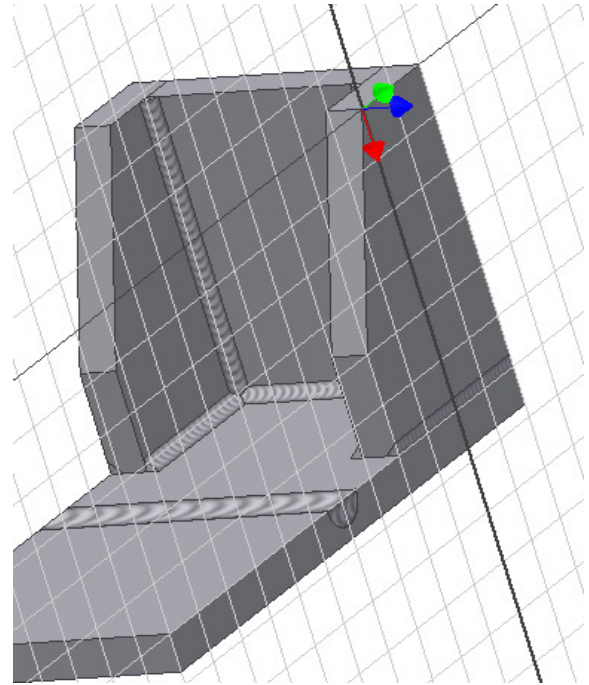

Figure Step 7
Step 7 Start a new sketch on the right side of the assembly. (Figure Step 7)